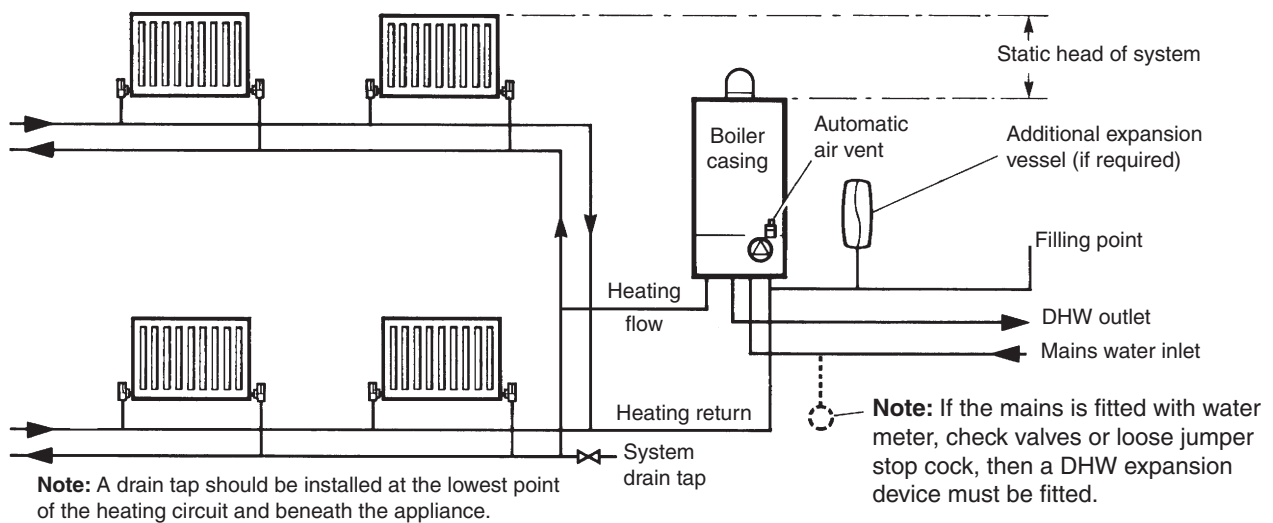

Fig. 3.5
### 3.7 CENTRAL HEATING SYSTEM - Fig. 3.5
**System volume** - The expansion vessel incorporated into the boiler is suitable for a sealed heating system with a maximum water content of 80 litres (18 gal). Above 80 litres, consideration should be given to fitting an additional expansion vessel fitted in the position shown in Fig. 3.5. To check correct operation of the expansion vessel(s) the system pressure should not be more than 2.5 bar when the system is at maximum operating temperature (for further guidance refer to BS 7074:1).
The system design pressure (cold) should be set to 1.0 bar. This pressure is equivalent to a static head (see Fig. 3.5) of 10.2 metres of water.